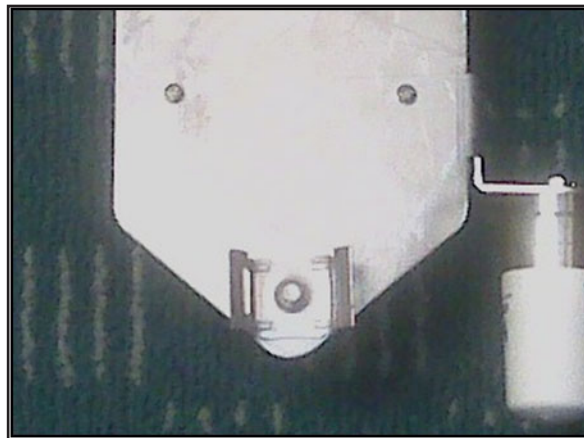

Figure 3: BAND-IT clasp (include in bottom and top holes)
1. Screw the BAND-IT® clasp into the bottom and top holes of the Gateway (see Figure 3).